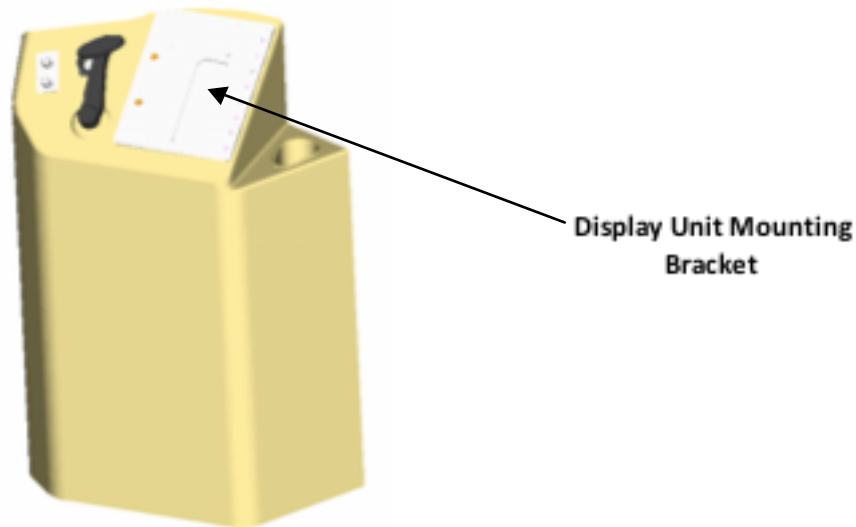

FIGURE 2 - CAPTAIN SIDEWALL - DISPLAY MOUNTING PROVISIONS
- » The installation of the captain's side DU mounting brackets is accomplished by installing the brackets into an existing stowage box. The stowage box door, trim, and box liner are removed and the brackets are installed using existing features of the box. No holes will be drilled in the box housing. See Figure 2. The installed bracket has a lower silhouette than the original installation.